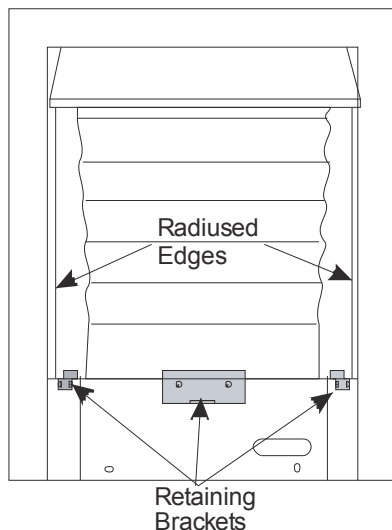

Figure 79
5. Refit in reverse order ensuring that the radiused front edges on the side panels are facing away from the flange of the firebox (see **Figure 79**). Also ensure that the top edge of the rear ceramic engages into the top retaining fold in the firebox.